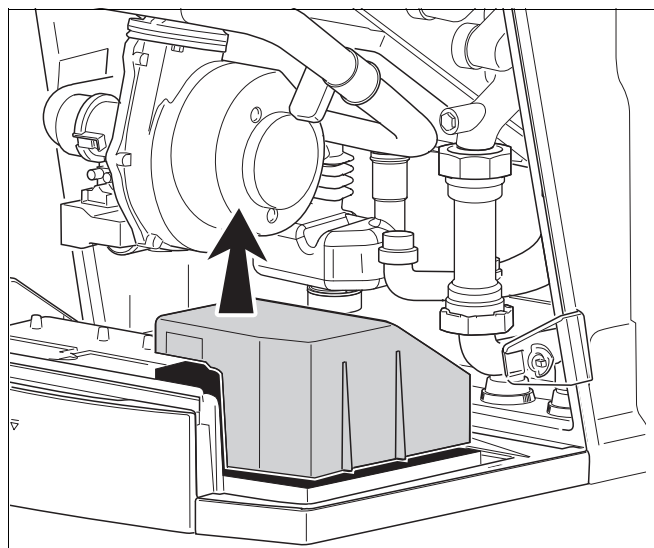

fig. 62 Removing the cover from the connection box
- Dismantle the cover of the external connection board (see fig. 62).